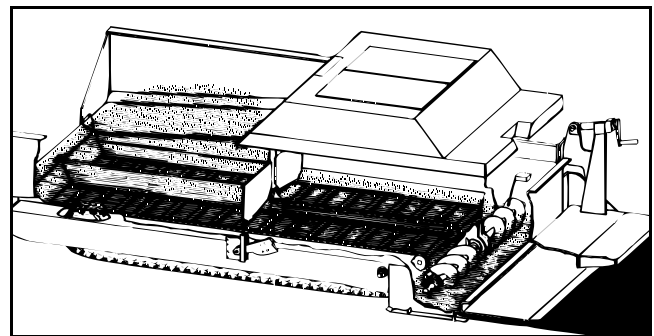

Figure 4 - 24 Shaded areas to be sprayed down daily
- 3) Start cleaning at the truck hook/push rollers and work your way to the rear of the machine cleaning the hopper wings, slat conveyors, hopper gates, augers, screed bottom, end gates, strike-offs, etc. (Figure 4 - 24)